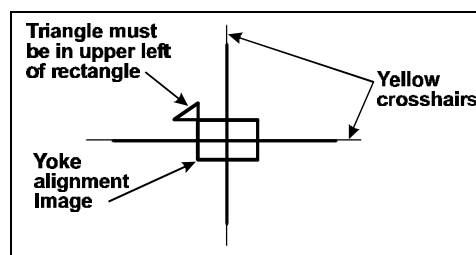

Figure 5-19. Yoke alignment image after yoke adjustment
18. Twist the yoke assembly until the alignment image is rotationally aligned with the cross-hairs. Make sure the small triangle is positioned in the upper left quadrant of the larger rectangle (Figure 5-19).